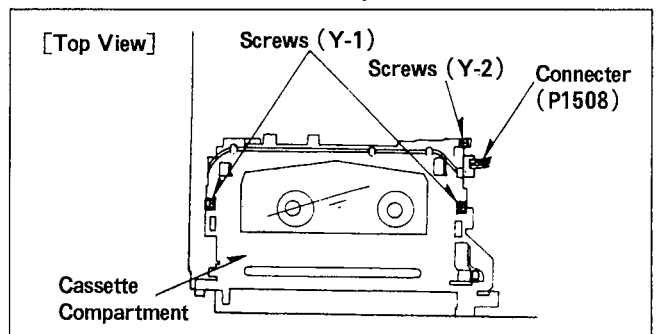

Figure D32
1. Unscrew the 2 screws (Y-1) and a screw (Y-2). (Figure D32)
2. Disconnect 2 wires and 4 wires from the connector (P1508) on the right side of the Cassette Compartment. (Figure D32)